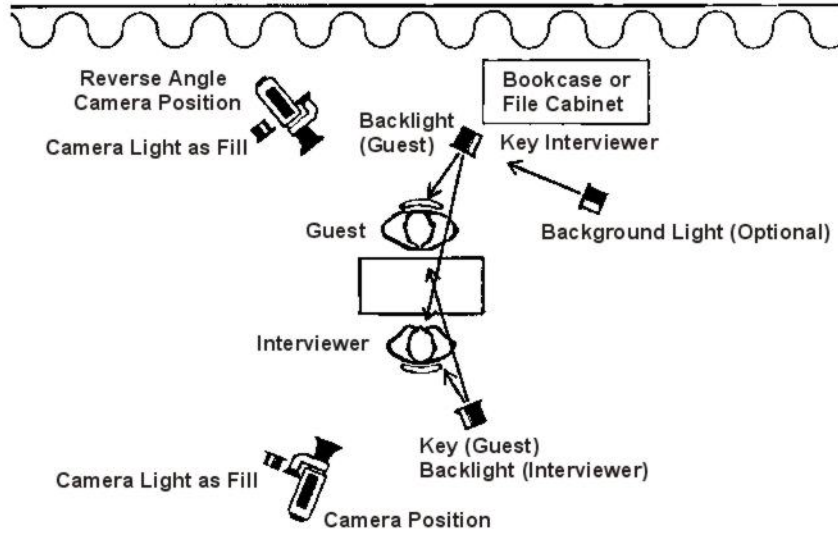

Figure I-21. Lighting for a Two-Person Interview
(1) A good alternative to using 3-point lighting is shown in Figure I-21. Here, the key light for the interviewer is also the backlight for the guest, and the key light for the guest becomes the backlight for the interviewer. This eliminates two lighting instruments while still meeting the key/back photographic principle.
(2) Figure I-21 shows camera lights being used as the fill lights, although reflectors could be used to perform this function, further reducing the number of lighting instruments used.